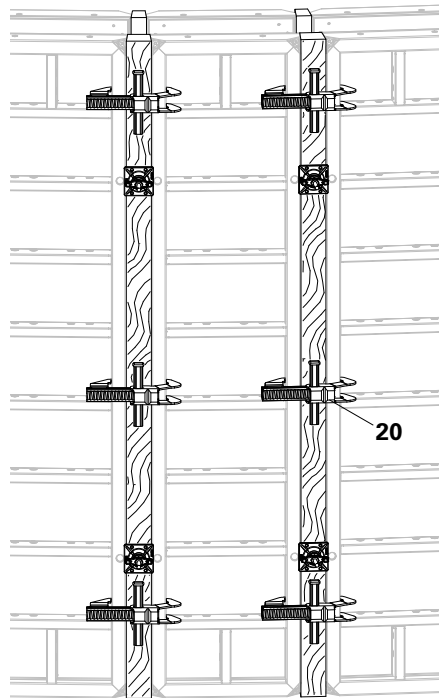

Fig. A16.03
- Do not set the Alignment Coupler BFD (20) on the struts.
- (Fig. A16.03)